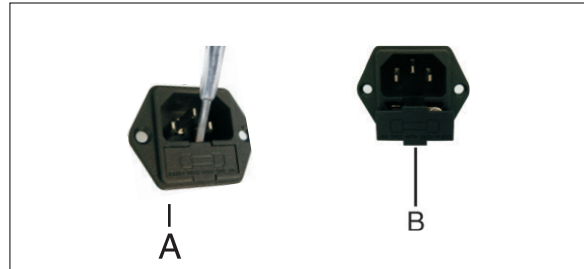

Figure 7
Power supply shall be cut off while intending to conduct the following operations. And disconnect power supply cable and main power supply. (See Figure 7 - Refer to B)
2. Insert a flat-blade screwdriver to the groove under the power supply hole, and then pry it out (Figure 7 - ref. A);
3. Pull out the fuse compartment (see Figure 7 - Ref. B) and select the appropriate fuse for replacement by following the label on the bottom of the power supply socket.